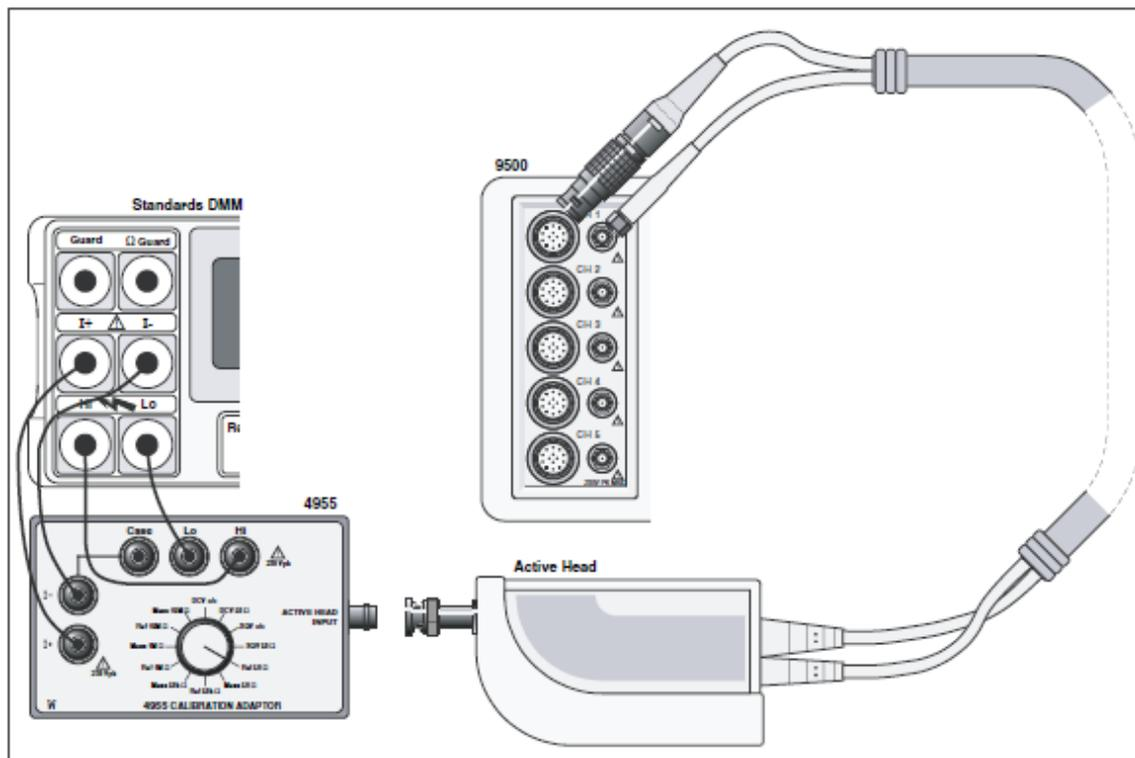

Figure 17. Load Resistance Measurement Function Calibration (50 Ω Ref) — Interconnections
1. Connections: Ensure that the 9500B is connected to the Standards DMM as shown in Figure 17, or via a similar BNC-4 mm adaptor and 50 Ω load, and that both instruments are powered on and warmed up.